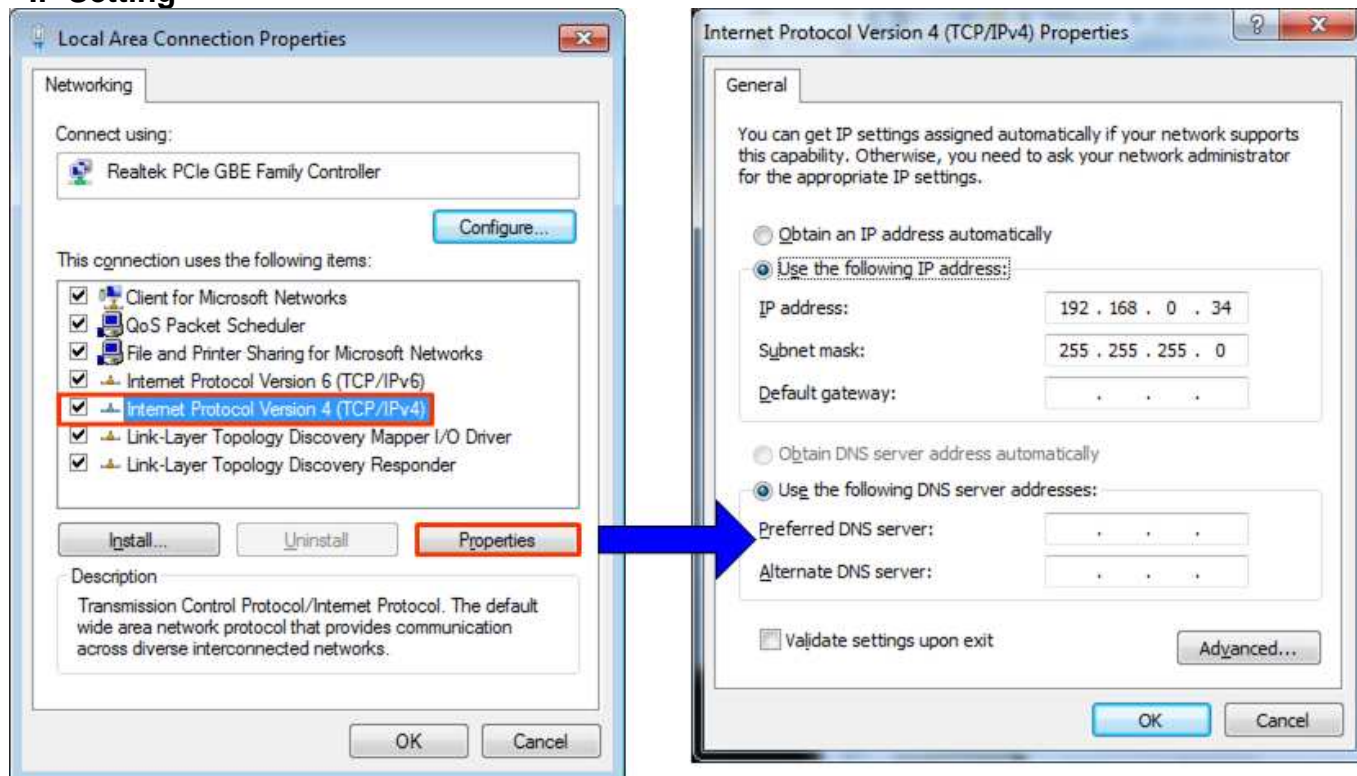

Figure 2 IPv4 Setting
- Open Local Area Connection Properties of test connection, as shown in left window of Figure 2.
- Set IP address = 192.168.0.34, and Subnet mask = 255.255.255.0, as shown in right window of Figure 2.